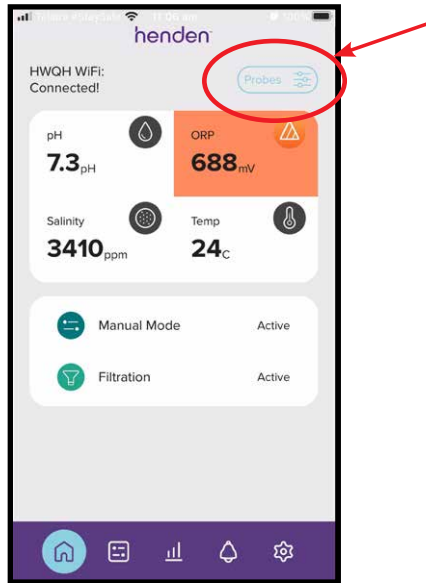

Figure 8.23
- From the dashboard of the Henden Smart Chlorinator App, press “probe settings” (refer figure 8.23)